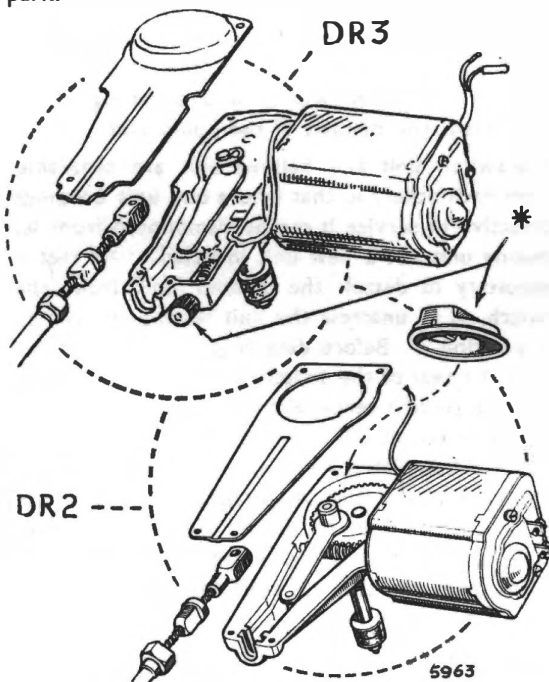

Fig. 34. Limit (parking) switch adjustment
\*Two types of limit (parking) switch (Refer to Fig. 34).
**Limit (parking) switch—to adjust** (Refer to Figs. 34 and 35).